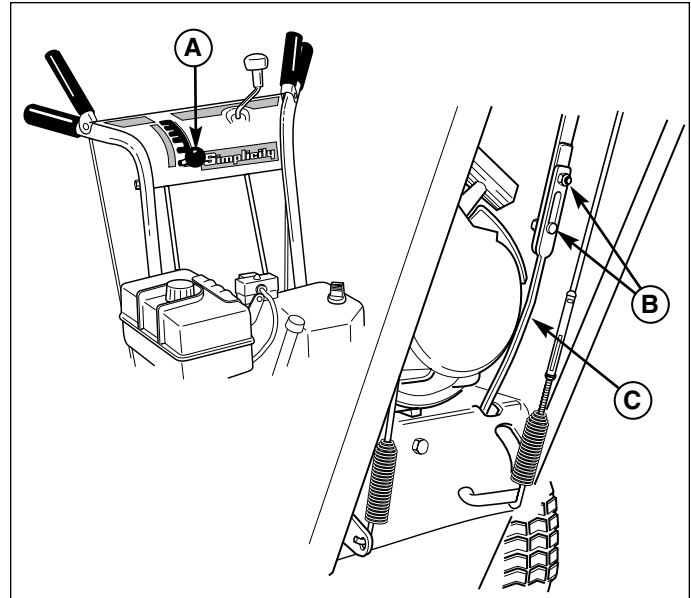

Figure 17. Speed Selector Linkage Adjustment
1. Move the ground speed control (A, Figure 17) fully forward.
2. Loosen the hardware (B) securing the upper and lower shift rods.
3. Push the lower rod (C) down fully (into the housing).
4. Make sure the ground speed control (A) is in the full forward (5th gear) position. Pull the two rods apart and tighten the shift rod hardware (B).